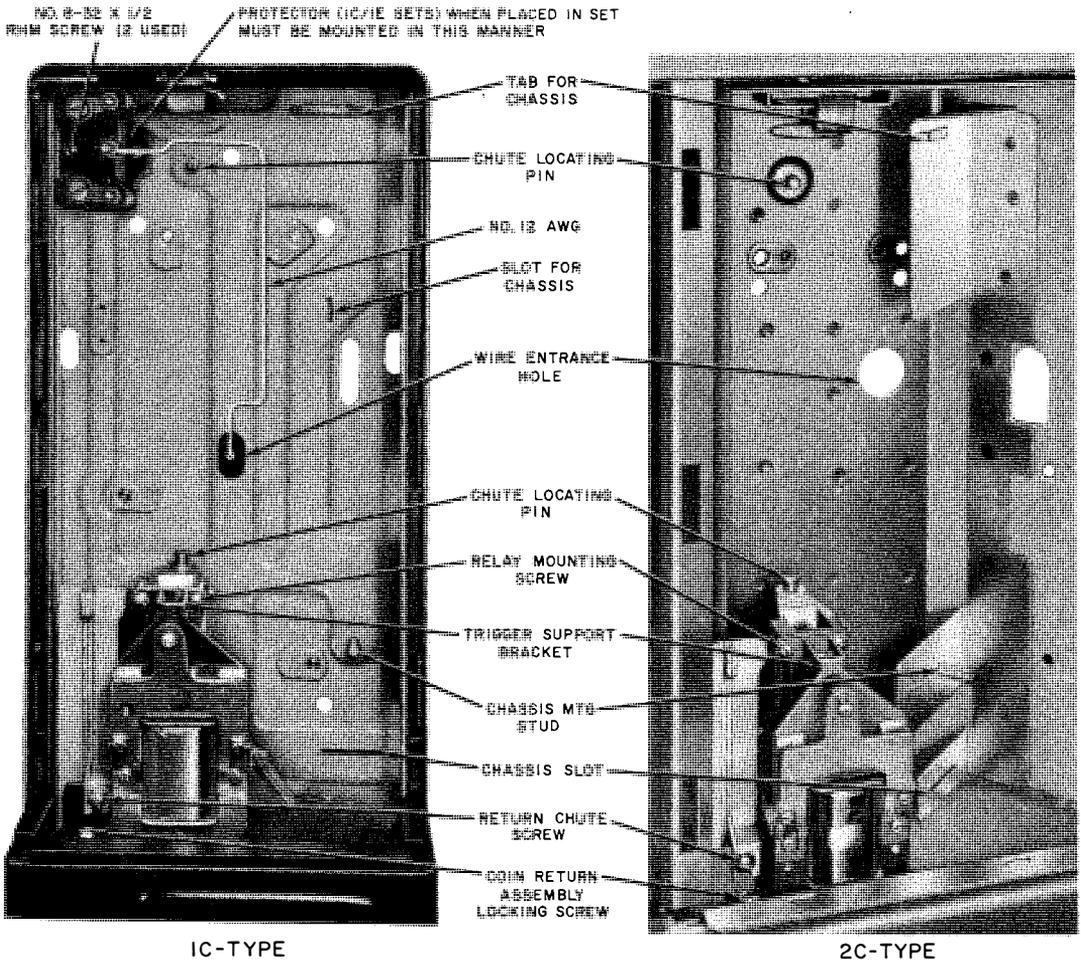

Fig. 13—Housing and Mounting Plate Assembly
- (1) Place chute on locating pins at rear of hopper assembly, and back of housing (Fig. 13).
(1) Slide chassis under tab (Fig. 13).
(2) Seat chassis tabs in slots.
(3) Tighten chassis mounting screw.
(4) On 1A/2A/1C/2C-type sets, thread (BK) and (Y) leads through eyelet on side of hopper.
- Connect (BK) lead to terminal 3 on coin relay
- Connect (Y) lead to terminal G on coin relay.